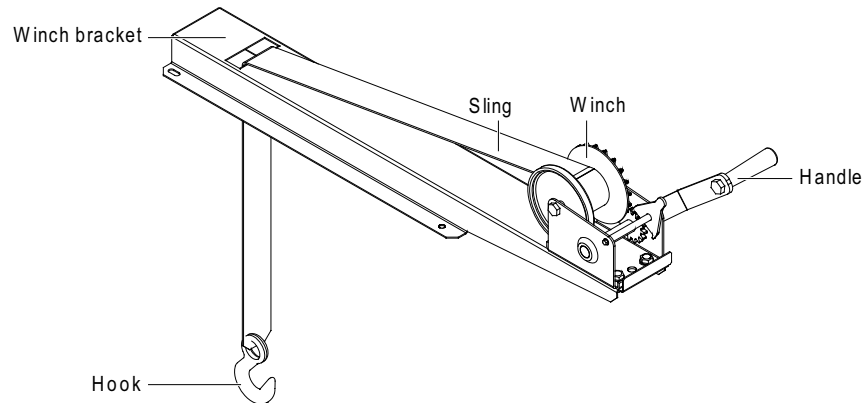
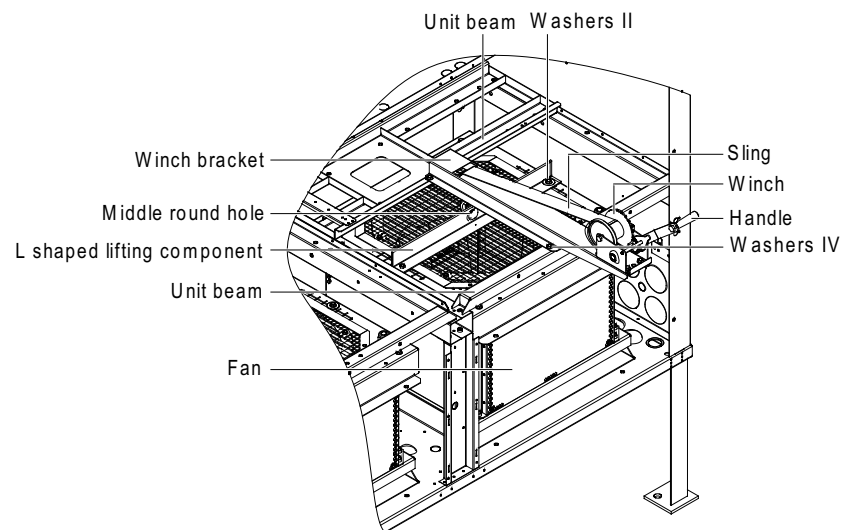

Figure 2-30 Fan elevator assembly (winch mode)
Figure 2-31 Installing winch bracket
The downflow unit has been equipped with a set of fan elevator assembly before delivery, including a hand winch, a winch bracket, a hook, a sling, a winch limit and a handle in Figure 2-30, and also an L shaped lifting component in Figure 2-31.
1. Open the unit maintenance cover, check the fixing bolts and washers II (see Figure 2-31, totally 2 pcs) of the L shaped lifting component to make sure that it is fixed properly, and then install the fixing bolts and washers IV (totally 4 pcs) of the winch bracket, as shown in Figure 2-31.
2. Turn the handle and use the hook of the winch to hook the middle round hole (see Figure 2-31) of the L shaped lifting component. Adjust the handle until the sling is completely tight.
6. Remove the hook from the L shaped lifting component, turn the handle clockwise, tidy the sling and remove the fixing bolts and washers IV (see Figure 2-31, totally 4 pcs) of the winch bracket, and take out the winch and the bracket assembly.
7. Remove the fixing bolts and washers II (see Figure 2-31, totally 2 pcs) of the L shaped lifting component, and take out the L shaped lifting component.
1. Install the fixing bolts and washers II (see Figure 2-31, totally 2 pcs) to fix the L shaped lifting component and the fan installation top cover.
2. Install the fixing bolts and washers IV (see Figure 2-31, totally 4 pcs) to fix the winch and its bracket onto the unit beams.